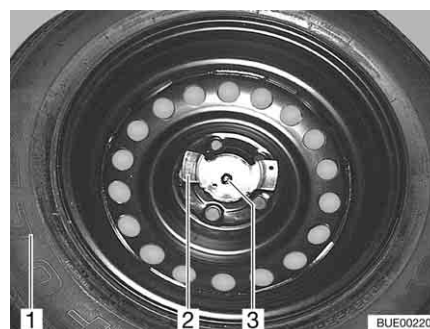

Fig. 214 Spare wheel fixture
- Unscrew both nuts (Fig. 214,2 and 3).
- Remove the spare wheel (Fig. 214,1) from the spare wheel support.